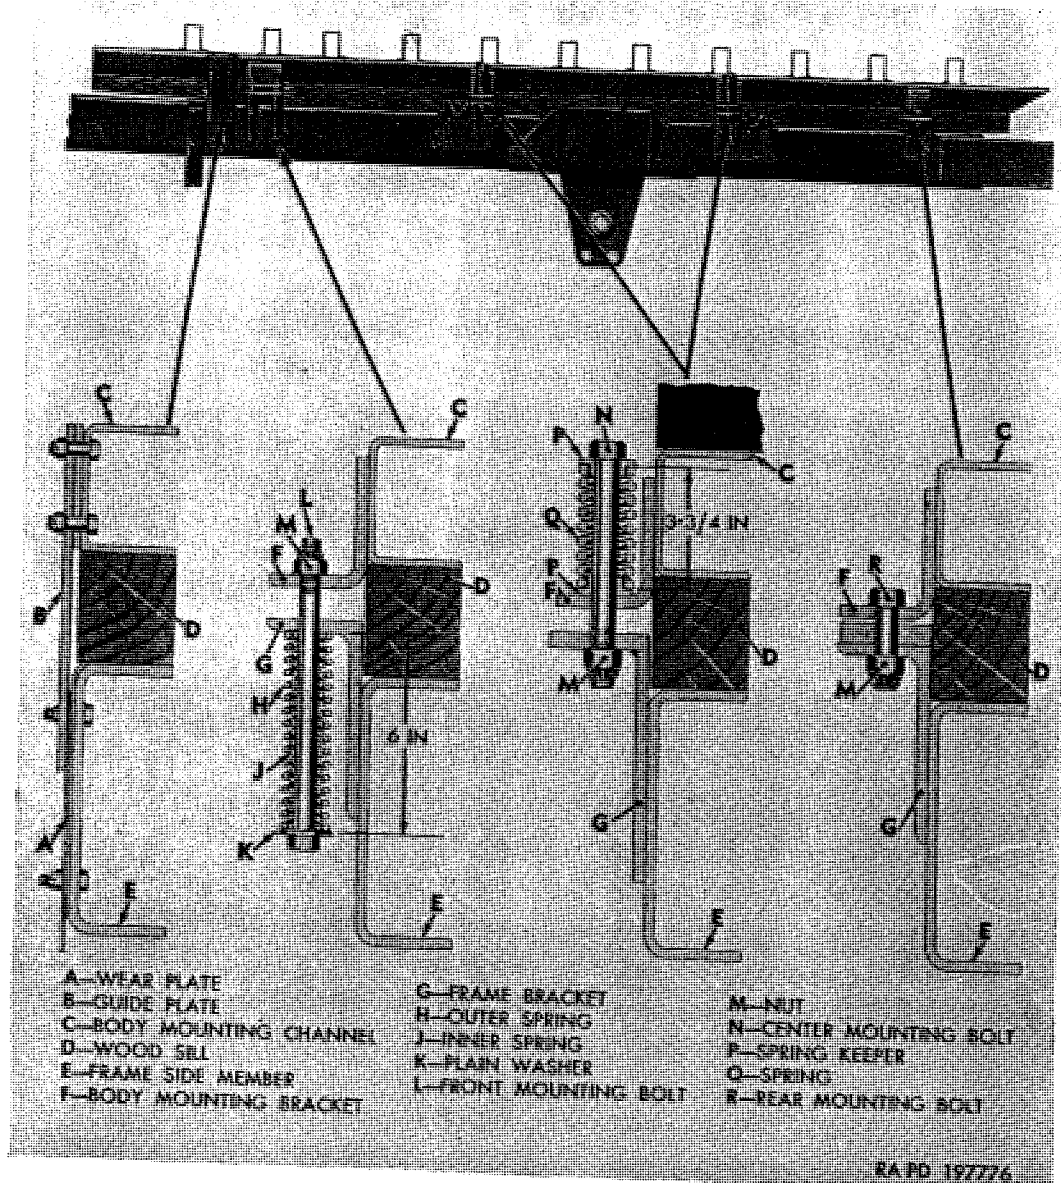

Figure 387. Shop van body mountings.
a. Description. Shop van body is attached to vehicle frame side members at four points on each side as shown in figure 387. Front mounting at each side is dual spring flexible-type mounting, the two center mountings at each side are single spring flexible-type mountings, and at rear mounting, bracket on body mounting channel is bolted directly to bracket on frame. Wood sills, drilled to provide clearance at rivet heads, are used between body mounting channels and frame side members. At front end, wear plates are bolted to frame side members at points where body guide plates contact frame.
b. Replacement. When mountings have been removed for any reason, parts must be installed in positions shown in figure 387. Bolt sizes are as follows: Front mountings (L, fig. 387)— $\frac{5}{8}$ -18 x 9; center mountings (N, fig. 387)— $\frac{3}{4}$ -16 x 7, and rear mounting (R, fig. 387)—
$3/4$ -16 x 2 $1/2$. Note that inner and outer springs are used on each bolt at front mounting, with plain washer next to bolt-head. On center mountings, spring keepers are used at each end of springs. Tighten spring-type mounting bolts until springs are compressed to dimensions shown on figure 387. Tighten rear mounting bolts.